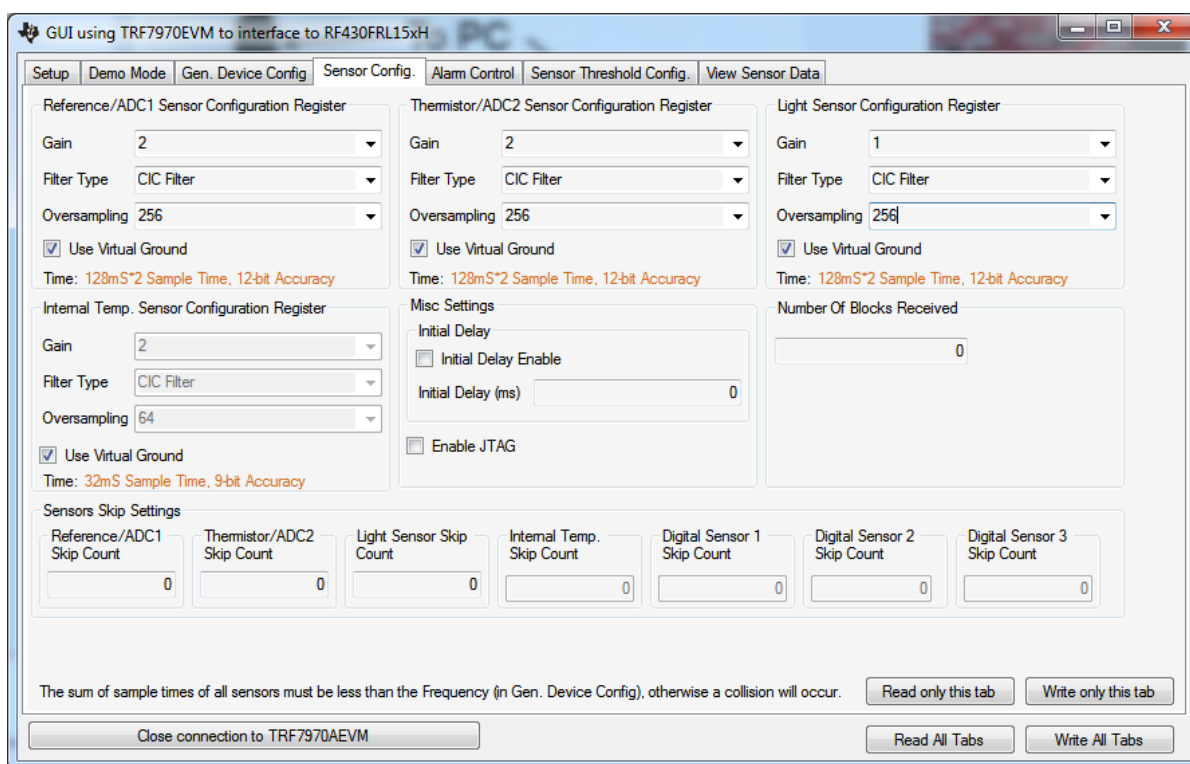

Figure 16. Custom Sensor Configuration Tab
6. Figure 16 shows the "Sensor Config." tab with these settings.